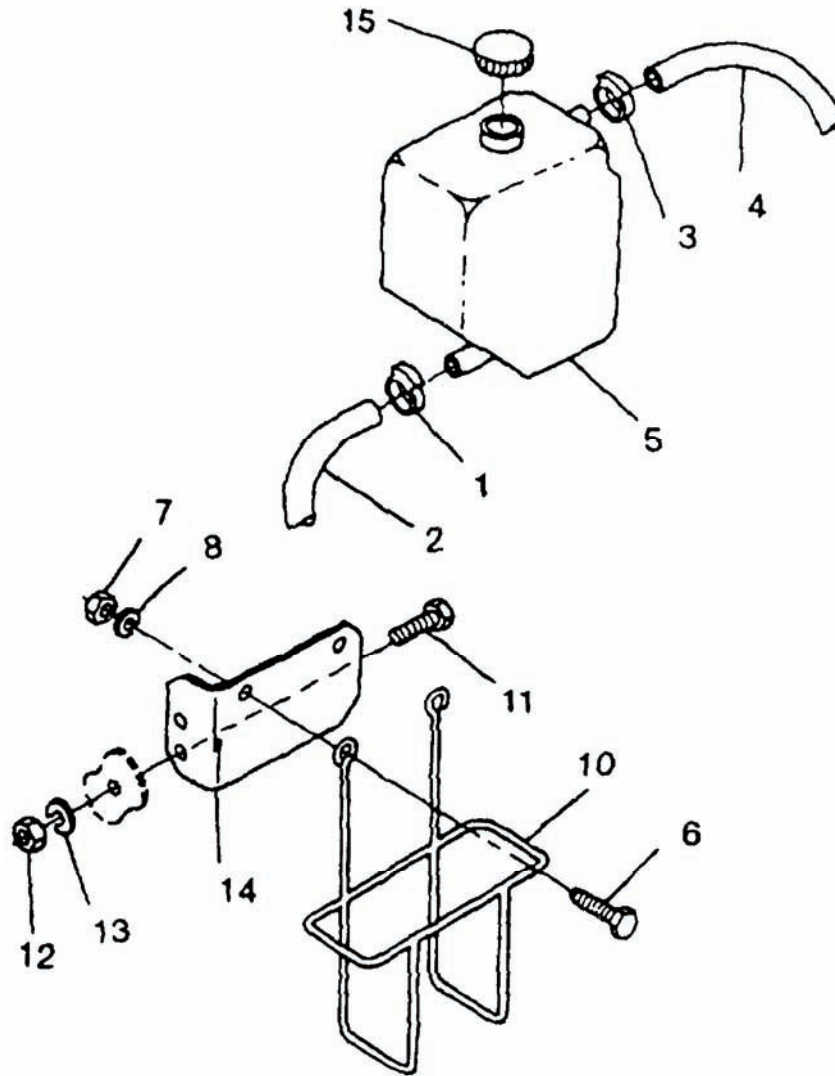

Figure 2-28. Coolant Recovery System.
- c. Loosen clamp (1, Figure 2-28) and disconnect hose (2) from overflow bottle (5) and drain coolant into suitable container.
- d. Loosen clamp (3) and disconnect hose (4) from overflow bottle (5).
- e. Remove overflow bottle (5) from wire holder (10).
- a. Install mount (14, Figure 2-28) on engine with bolts (11), nuts (12), and new lock washers (13).
- b. Install wire holder (10) on mount (14) with bolts (6), new lock washers (8), and nuts (7).
- c. Install coolant overflow bottle (5) in holder (10) and connect hoses (2 and 4) with clamps (1 and 3).
- d. Remove cap (15).
- e. Fill overflow bottle (5) with coolant to the COLD level. Refer to Table 2-1 for proper coolant.
- f. Install cap (15).
- h. Remove cap (15).
- i. Add coolant to HOT level of overflow bottle (5).
- j. Install cap (15). Close left side engine access door.